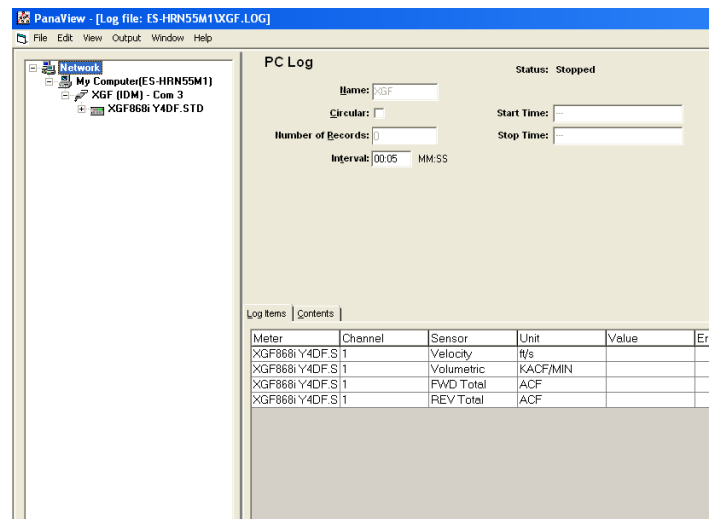

Figure 18: PC log window
6. At the resulting *PC log* window shown in *Figure 18* below, place a check mark in the text box to create a *circular log*, or leave this box empty to create a linear log.
7. Enter a sampling *interval* in the text box shown in *Figure 18* above.